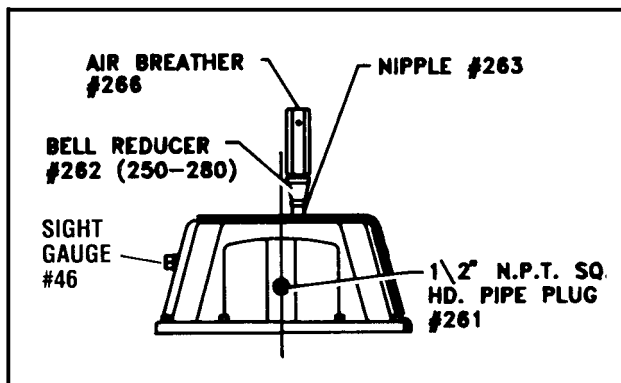

Figure 3-13
4. Install air breather #266 into end housing along with bell reducer and nipple, furnished with vertical kit (See Figure 3-13).
5. Remove sight gauge #46 from end housing (See Figure 8-1) and install it into the 1/2" N.P.T. hole where the air breather #45 was located (See Figure 3-13).
6. Plug old sight gauge hole with a 1/2" N.P.T. Sq. Hd. pipe plug #261 (See Figure 3-13). This plug is furnished with the Vertical Mounting Kit.